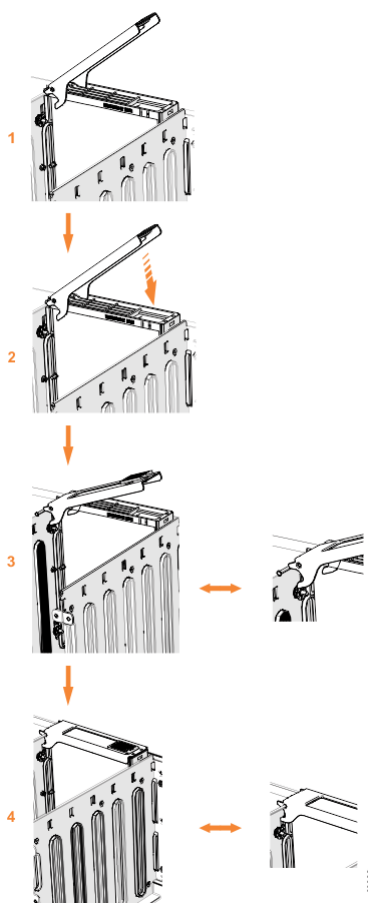

Figure 130. Replace the drive
14. Ensure that the drive handle (1 in Figure 130 on page 182) of the drive assembly is in the open (unlocked) position.
16. Lower the drive down, without pushing, until it stops and the bottom of the latch is aligned with the top of the partition. Ensure that the handle is not open more than 45 degrees from the drive carrier. (2 in Figure 130 on page 182). If the drive does not slide down easily then inform IBM remote technical support.
17. Rotate the handle down to lock the drive assembly into the chassis (3 in Figure 130 on page 182).
19. Ensure that the top toe of the latch is also fully engaged (4 in Figure 130 on page 182).